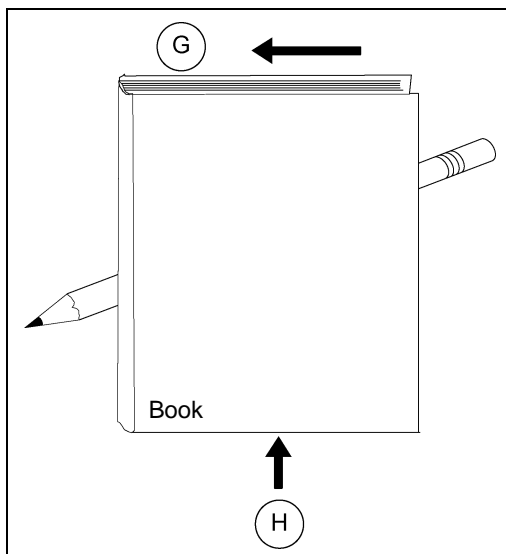

Figure 6Z
8. Tracking adjustment is done while the belt is running and should be spread over some length of the conveyor preceding the region of trouble. The adjustment may not be immediately apparent, so permit the belt to run for several minutes and at least three (3) full belt revolutions after each idler adjustment to determine if additional “tracking” is required.
14. The reader can demonstrate this for himself very simply by laying a small dowel rod or round pencil on a flat surface in a skewed orientation. If a book is now laid across the dowel rod and gently pushed by one’s finger in a line directly away from the experimenter, the book will tend to shift to the left or right depending upon which end of that dowel rod the moving book contacts first. (See Figure 6Z.)